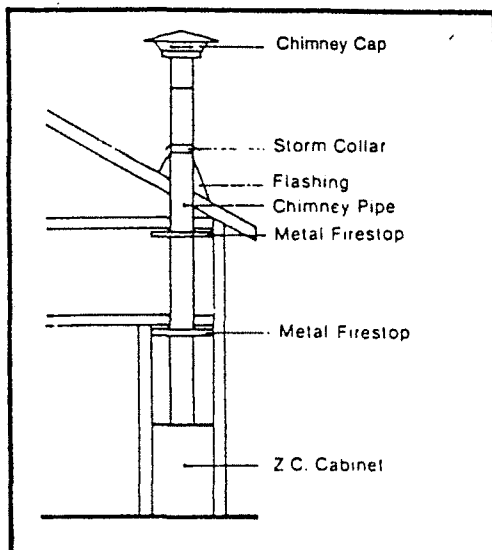
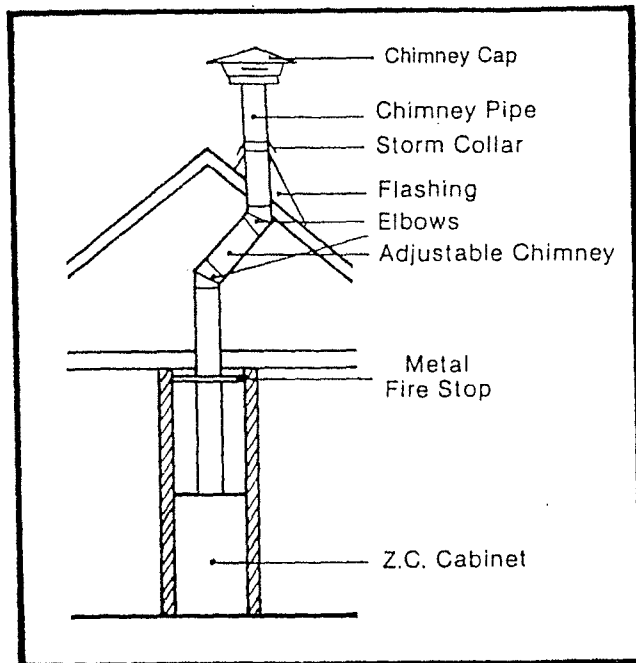

FIGURE 1 THROUGH CEILING & NORMAL PITCH ROOF
FIGURE 3 OFFSET TO CLEAR OBSTRUCTION
A. Straight up through ceiling: (See Figures 1 and 2). This is a simple installation normally used when installing a Model ZC-80 inside an existing room, and in some cases, in new construction. Refer to Figure 3 if an offset to clear an obstruction is needed.
Except as noted, the Model ZC-80 can be installed almost anywhere you desire. There are, however, a few clearance and framing restrictions that must be followed. See figures 1 and 2 to make sure that these clearance restrictions are met. It is much wiser to place your Model ZC-80 correctly at the start of the installation than to be forced to relocate it after much of the work is done.
FIGURE 1-B: Safety shields for brick or rock hearth (Note: Cut vertical shield to fit installation height as needed. Use 26 Ga. Minimum metal being sure to cover any combustibles on the base.)
2. Set Model ZC-80 unit in place and attach safety shield to unit as shown in Figure 1-A and 1-B. You must place a noncombustible material 3/4" thick millboard or equivalent K Factor $= .084/\text{BTU}/\text{F}^2\text{H}^0\text{F}$ inches minimum.
C. Framing must protrude 2 1/2" to allow for finished wall to come flush with the back of the ZC Cabinet trim panel (See Figures 1-A and 1-B).